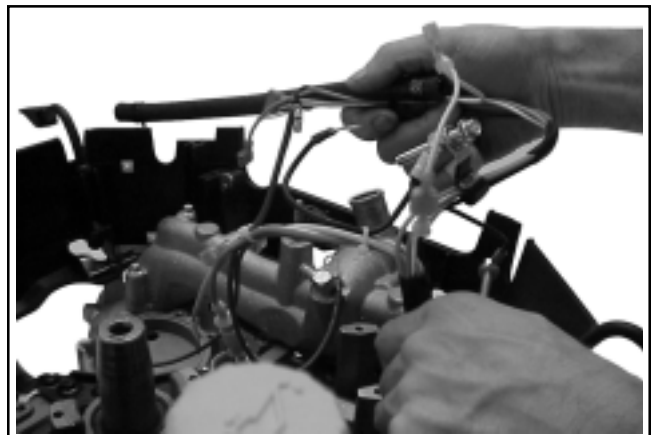

Figure 9-51. Removing By-pass Hose and Wiring Harness.
4. Lift the by-pass hose, with the wiring harness attached, and work the ends of the harness back through the openings in the lower blower housing to remove. See Figure 9-51.